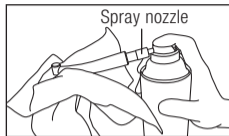

Fig. 25
- 3 Insert the spray nozzle into the rear of the handpiece while holding the head of the handpiece with a cloth etc.. (Fig. 25).